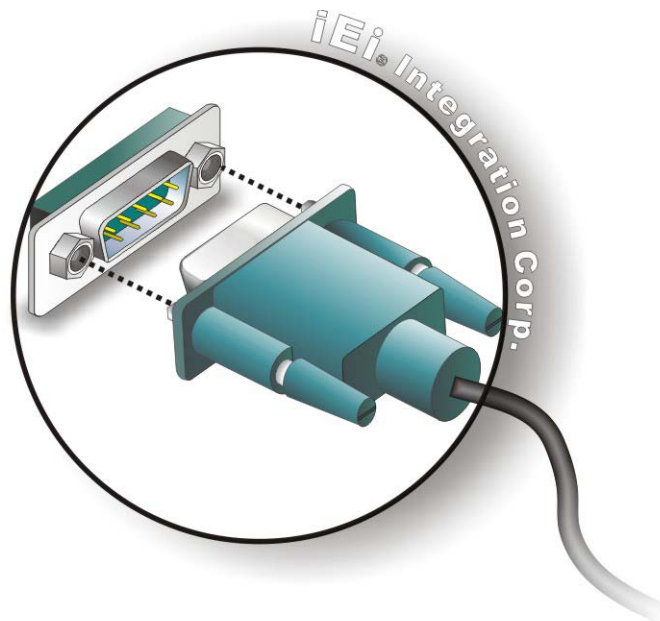

Figure 3-16: DB-9 Serial Port Connector
Step 2: **Insert the serial connector.** Insert the DB-9 connector of a serial device into the DB-9 connector on the rear panel. See **Figure 3-16**.